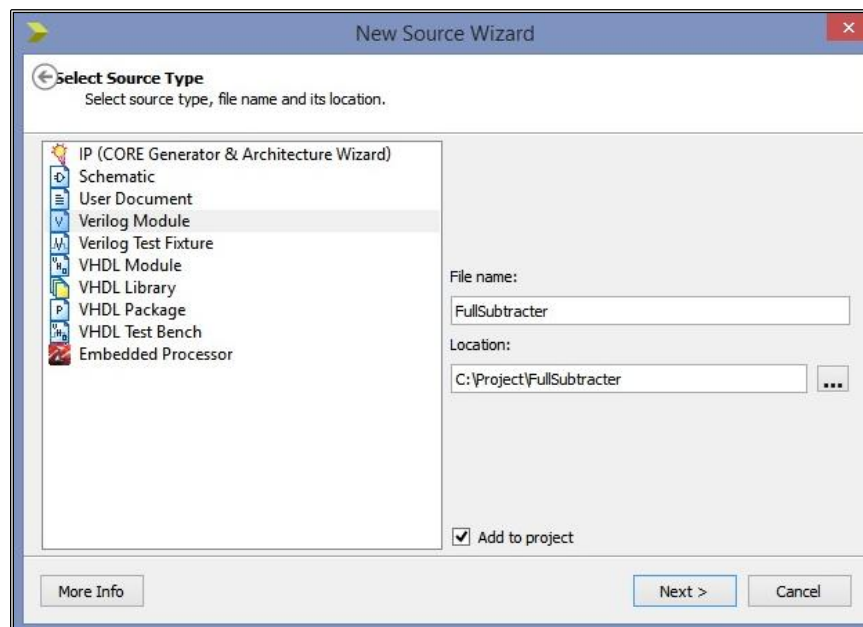

Fig 4.2: New Source
5. Now in the ISE Project Navigator Environment, select Project => **New Source**. Select **Verilog Module** as the **Source Type** and enter a name “FullSubtractor” for the new source in the **File Name** field (Fig 4.2). Click **Next**.